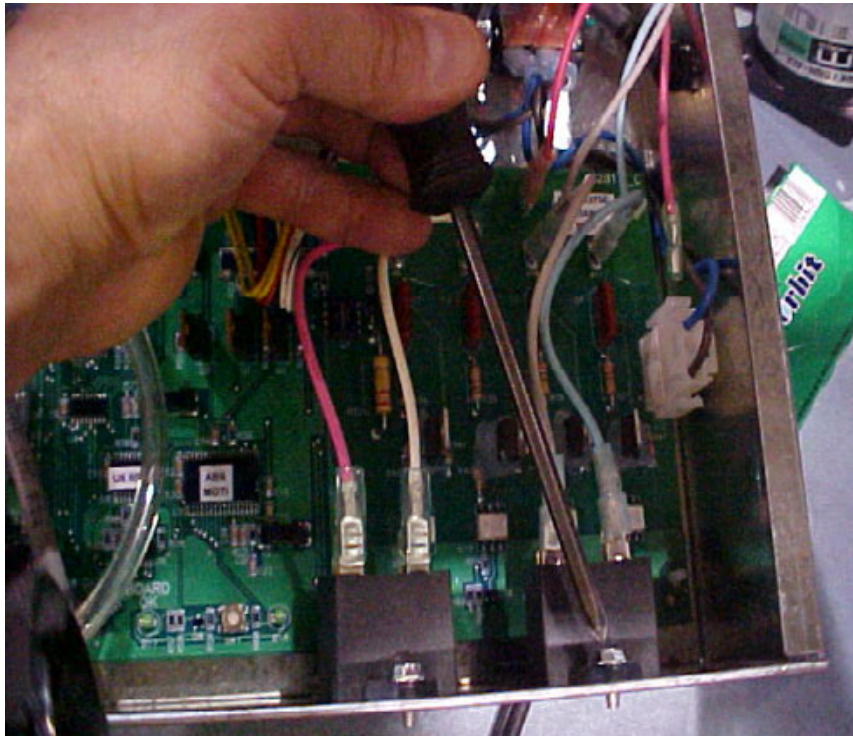

Figure 2:
- 3) Open the electric box and remove the screw securing the conveyor capacitor (see Figure 2)